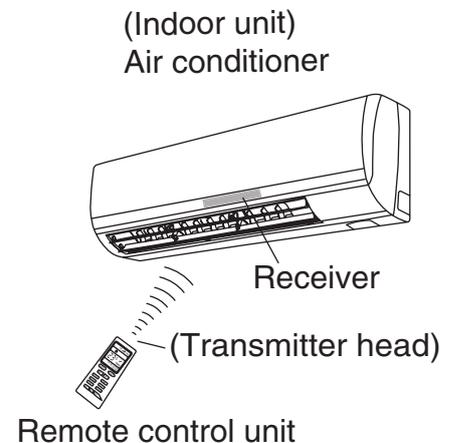

Fig. 3
4.8 Using the Remote Control Unit (Fig. 3)